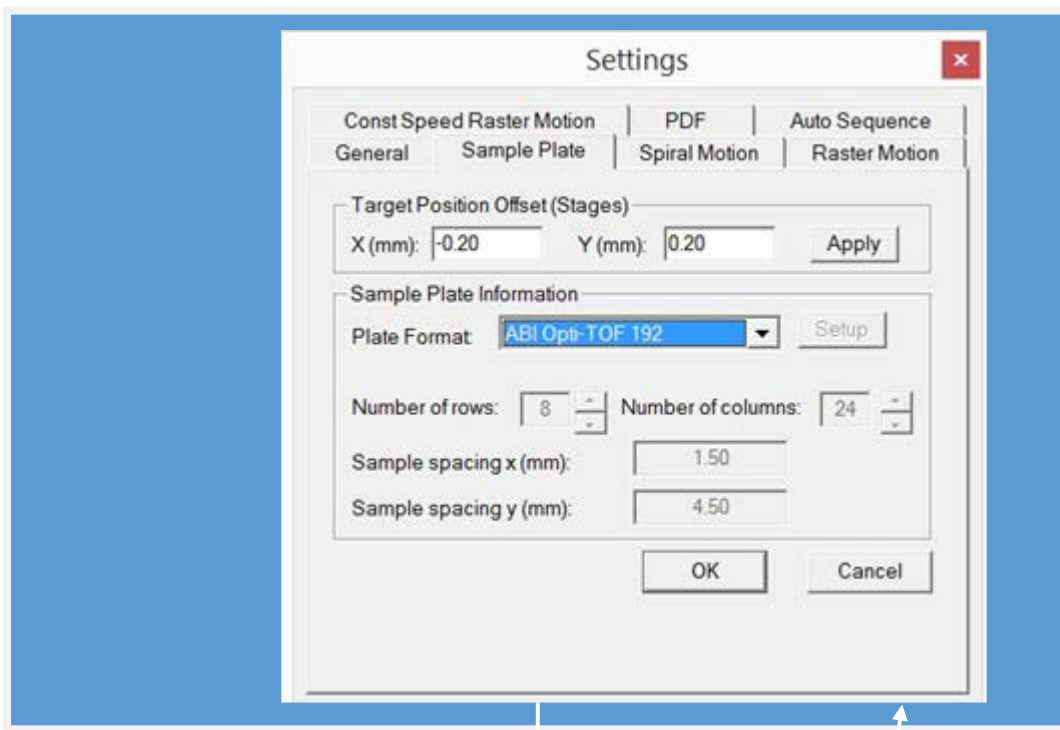
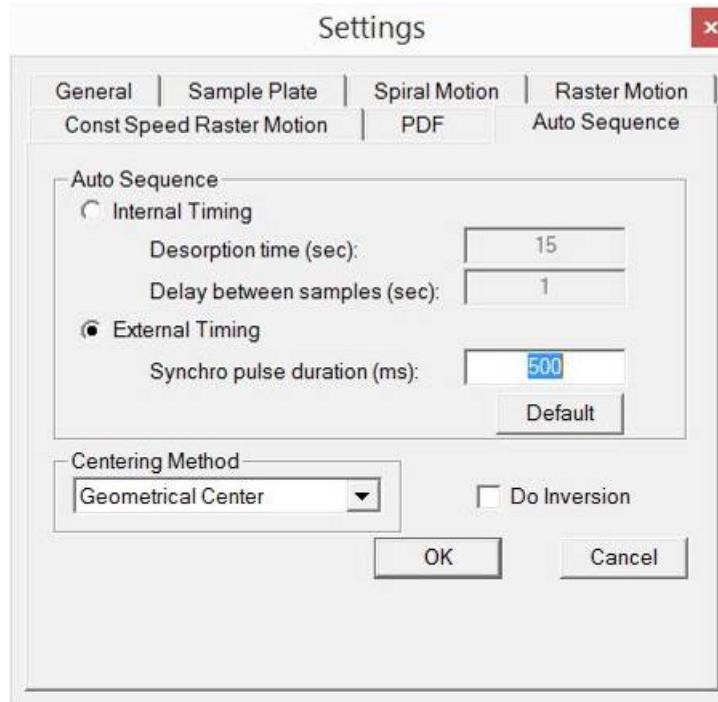

Figure 7.15. Plate Formats Supported by the Target Version 7.0 and the Sub-AP/MALDI Ion Source
Figure 7.20 Auto Sequence Settings
1. Deactivate the “Auto Sequence” button in the Target Software window (See Fig. 7.15 for its location in the software).
The selection between the two automation modes is implemented in the "Auto Sequence" tab of the "Settings" dialog box in the Target Software (the dialog is activated through "Settings" menu item); this is shown in Fig. 7.20.
Different modes of the auto sequence mode are available in the software and include geometrical centering (geometry) and user-defined centering (manual), which can be seen in Fig. 7.20. The geometrical centering mode is used when the center of entire sample, which is spotted on the target plate, is precisely in the same spot in each sample cell. This is useful for the automated mode, which controls the spotters. The user-defined centering helps the operator establish the center position of the samples on a target plate. When the operator is manually hand spotting of samples, the user-defined centering mode may be helpful. The user-defined centering mode also allows the operator to tell the Target Software where the center of the sample is for each spot that needs to be analyzed.
3. Make sure that the “Auto Sequence” button is activated in the main Target Software window (see Fig. 7.15). For the internal timing mode, click the “Internal Timing” radio button in the Target’s “Settings Dialog” window (see Fig. 7.20).
- a. The data acquisition will continue during the time specified for the spot selected, which is known as the desorption time (Fig. 7.20). When the data acquisition from the first sample is done, the laser firing is automatically stopped (by the software) and the target moves to the next sample spot. The current sample is indicated by a blinking color. The process will be repeated until the last sample spot has been analyzed. Finish the data recording in Tune-Plus Program.